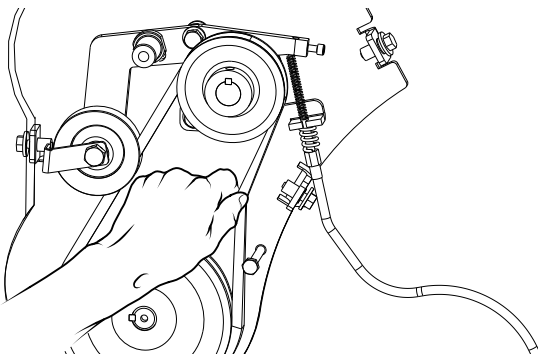

Figure 18. Clutch Cable thru Bracket and Lever
6. Place the clutch cable through the clutch bracket (Figure 18), with the clutch engagement spring below the clutch bracket, and the clutch return spring above it. Route the clutch cable through the clutch lever as shown.